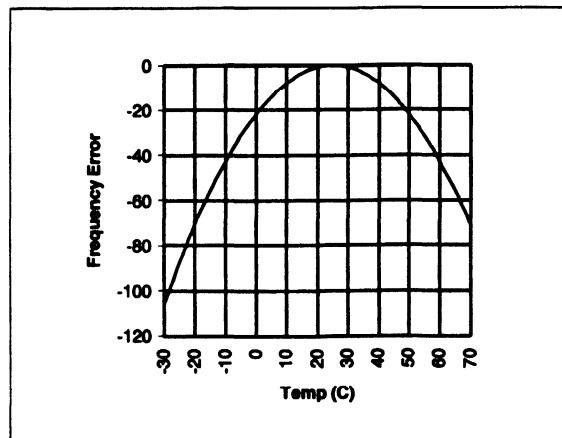

Figure 7. Frequency Error
With a properly selected quartz crystal connected directly to X1 and X2, the bq4845 should be accurate to  $\pm 1$  minute per month at room temperature with no trim capacitor. The accuracy of the clock changes with temperature as seen in Figure 7. If higher accuracy is required at room temperature, or the system operates at the temperature extremes, a small trim capacitor can be placed between X2 and ground. A simple calibration routine can be used to measure the frequency and trim the capacitor for optimum clock accuracy at the use temperature.
- Equivalent bq4285 design (Figure 7, Table 8)